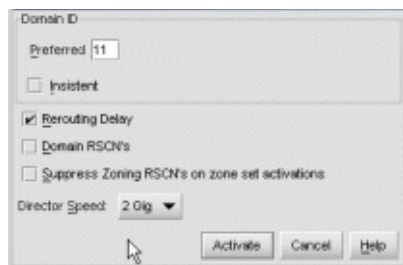

Figure 45: Configure Switch Parameters dialog box
2. Choose **Configure > Operating Parameters > Switch Parameters**. The Configure Switch Parameters dialog box displays, as shown in Figure 45.